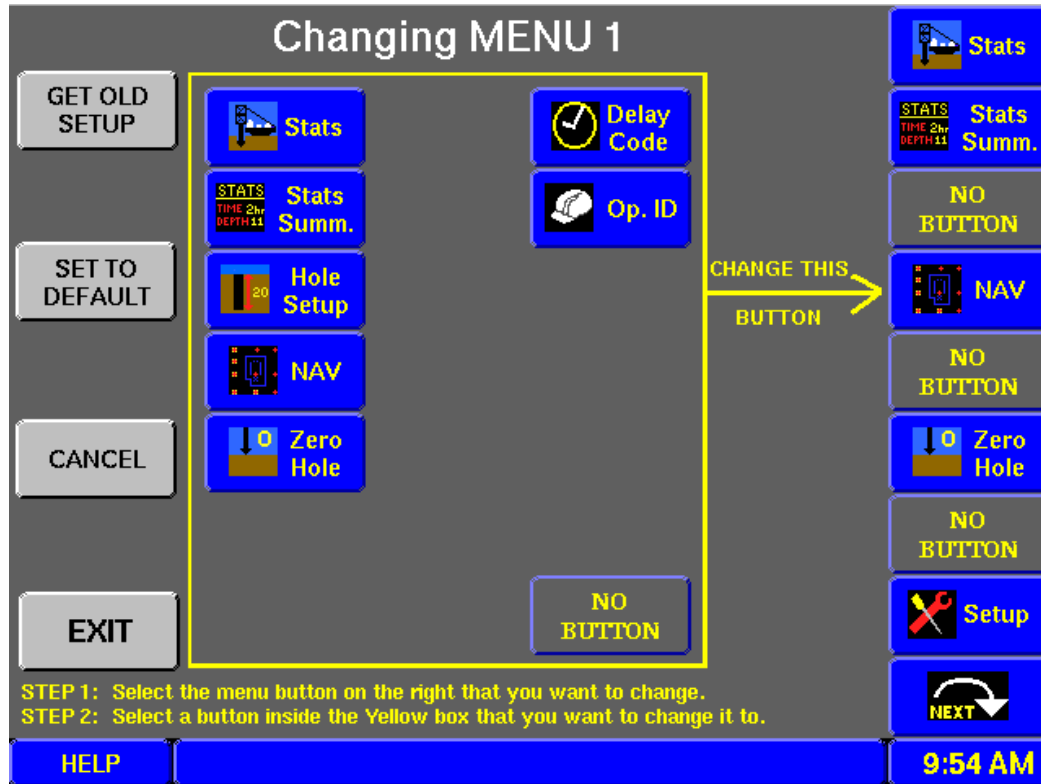

Figure 7: Menu Bar Configuration Screen
2. Use the large button below the MENUS heading, labelled CONFIGURE, (refer Figure 2), to access the Menu Bar Configuration screen, as shown in Figure 7.